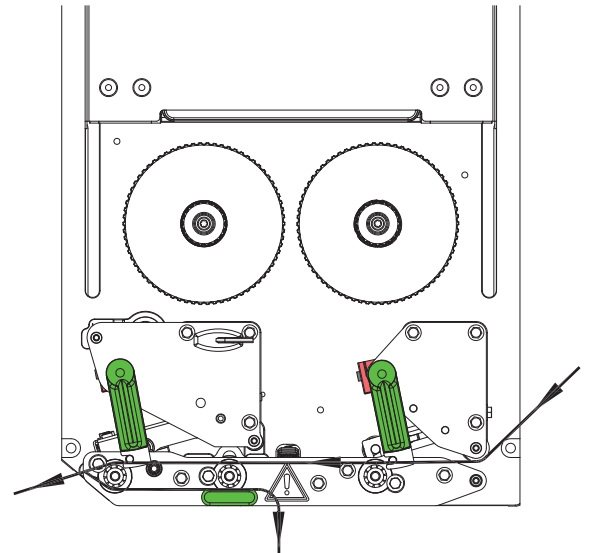

Fig. 10 Label feed path
2. Turn levers (3) and (9) counterclockwise to open the printhead (1) and the backfeed system (8).
3. Guide label strip (7) to the peel-off edge (2) as shown in the Fig. 10 and move to the mounting plate until it stops. The printing side of the label must be shown from above.
4. Forward the label strip over the peel-off edge, that the strip reaches back to the locking system (4). Remove the labels from the overhanging strip.
5. Turn levers (3) and (9) clockwise to close the printhead (1) and the backfeed system (8).